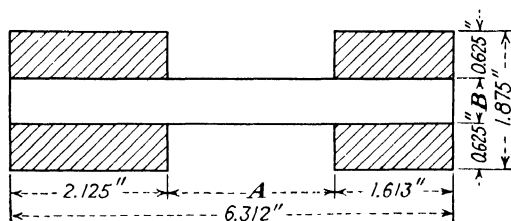

Fig. 35.—Front wing spar.
7. What are the missing dimensions in Fig. 35?